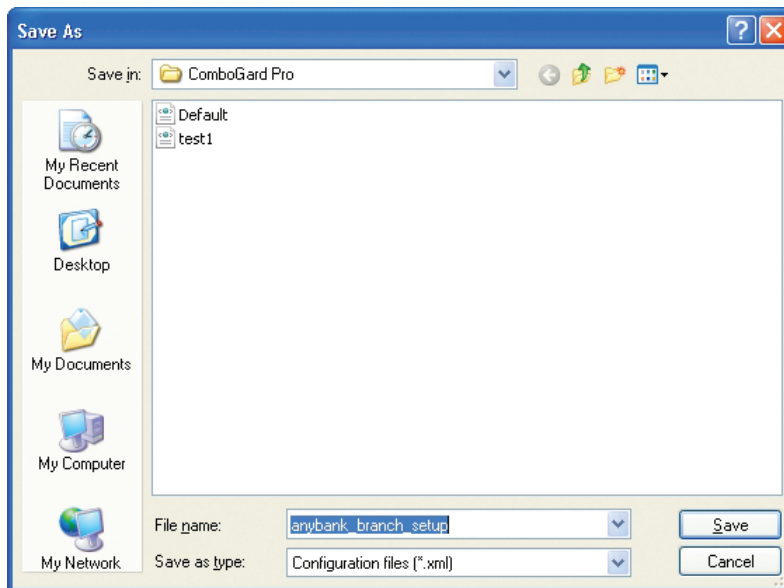

Figure 16
2. Name the file and click the **Save** button (Figure 16).